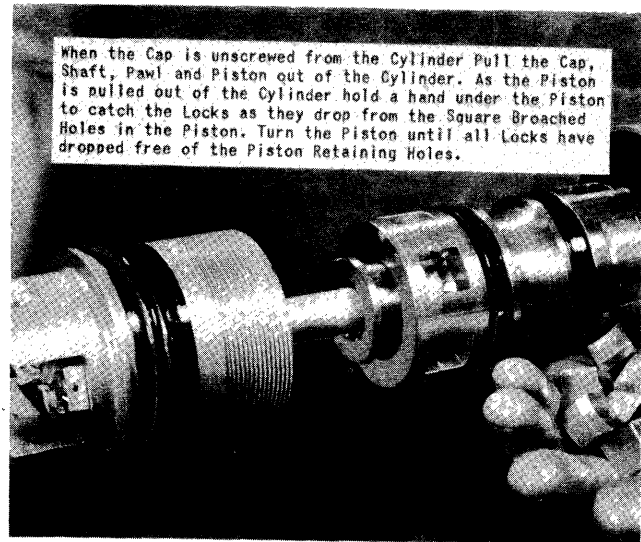

Figure 176 - Removing Piston and Pawl
(7) Replace the cylinder in the wooden block clamp and secure it in a vise. Push the piston, piston rod and cap out of the cylinder and hold a hand under the cylinder (figure 176) to catch the locks as they drop out of the square broached holes in the piston. Revolve the piston until all locks have fallen out. Pull the piston assembly from the cylinder and remove the cylinder from the vise.